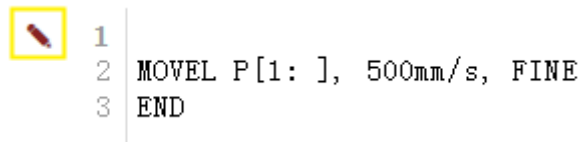

Fig. 4.12 Pen Cursor
1. On the program operation interface, click and select the program line to be inserted into the program position and select the program line. Then, a cursor may display in front of the program line number, as shown in Fig. 4.12.
Select the motion instruction to be modified in the program editing interface, and a cursor will appear in front of the selected statement line, as shown in Fig. 4.12.